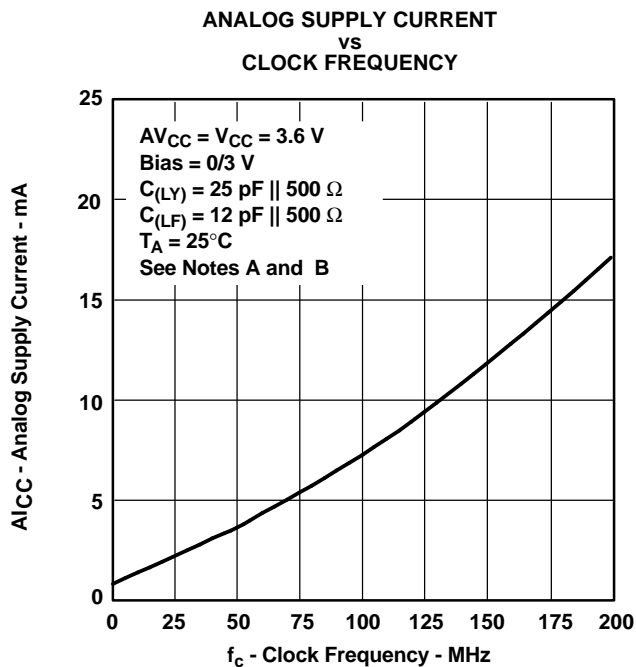
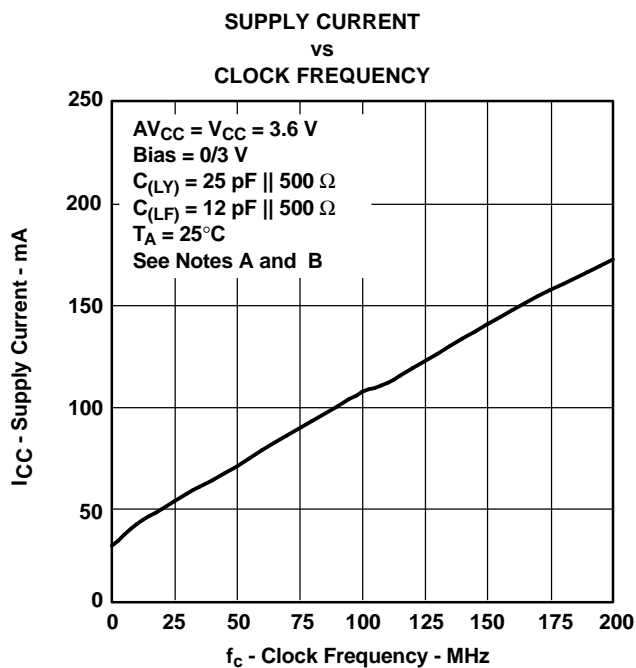

Figure 8.
Figure 9.
(2) For dynamic I_{CC} vs Frequency, see Figure 8 and Figure 9.